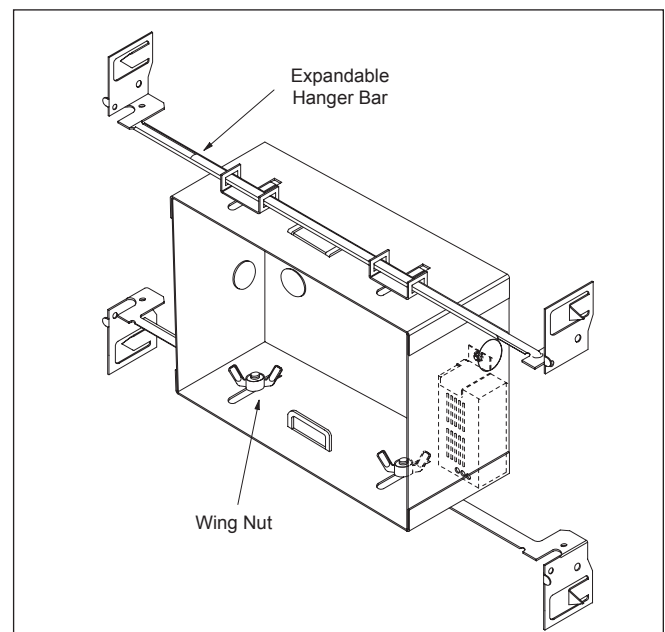
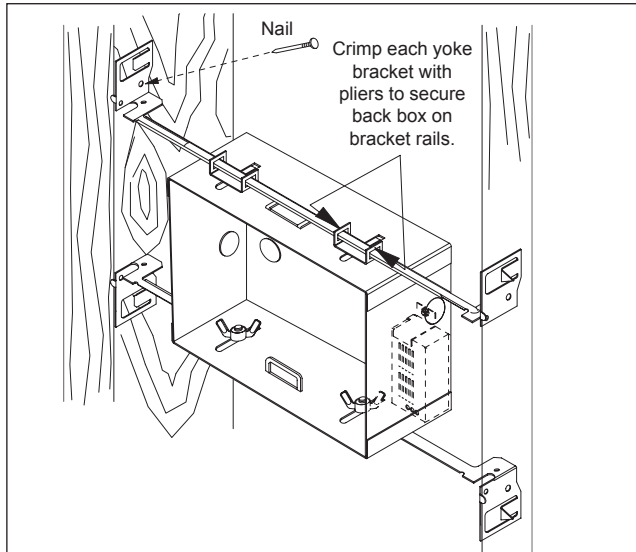

Figure 1
Figure 2
1. Attach the expandable hanger bars to the back box using the wing nuts provided (as shown in Figure 1).
3. Insert the supply wiring at the rear or at the side of the back box through one of the three (3) knockout holes provided. Attach conduit as required.
6. Nail each bracket end in place against the stud as shown in Figure 2.
8. Tighten the four wing nuts and then crimp each yoke bracket firmly onto the rails as shown in Figure 2. This will prevent left/right movement of the back box.